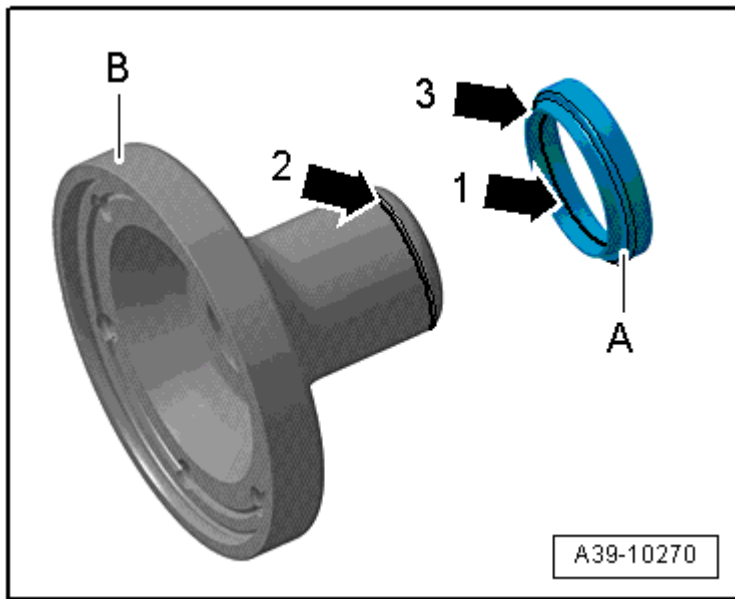

Fig. 165: Ring Installed Position -A- On Flange/Driveshaft
- The ring -A- must clip into the chamfer in the flange **Fig. 165**.